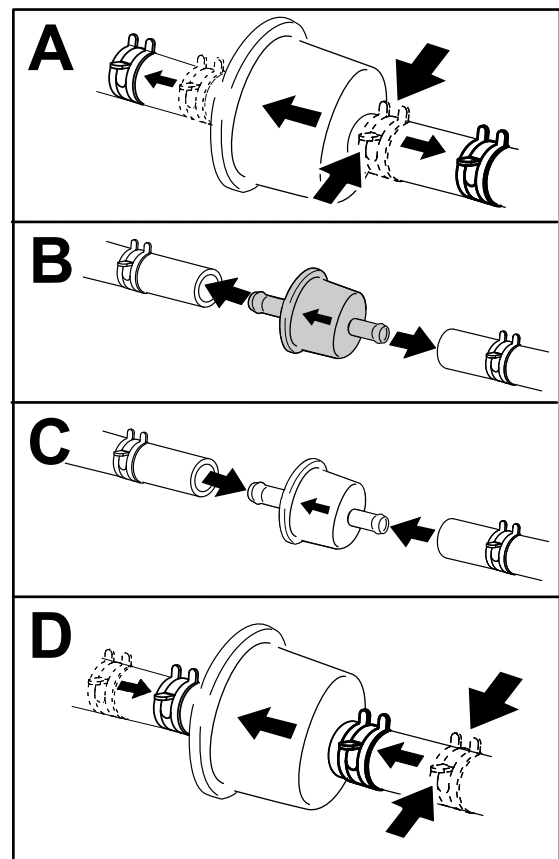

Figure 24
4. Replace the filter as shown in Figure 24.